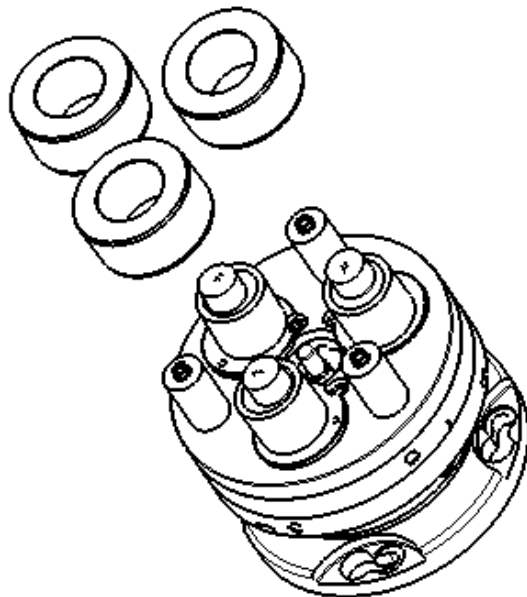

Figure 26: Removing the rolls 2/2
5. Remove the rolls (see figure 26).